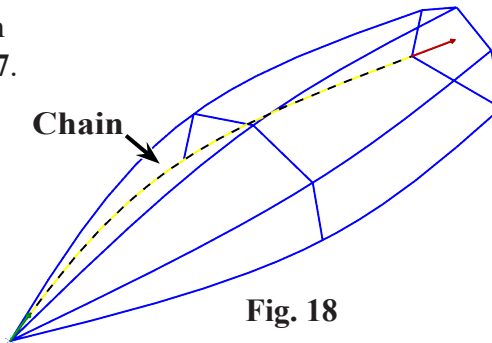

Fig. 18
Step 3. Click **spline on bottom** to define flat boundary 1, **Fig. 18**.